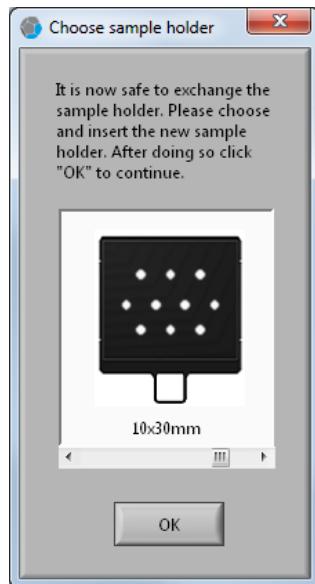

Figure 5.3.: Exchange Holder dialog
A message window pops up (see Figure 5.3) when the system is ready for the sample holder exchange. During the holder loading this message has to be active. Do not confirm it prior to finishing the loading procedure. Otherwise you have to re-click  **Exchange Holder** before continuing.
A dialog is displayed (see Figure 5.3) when system is ready for the exchange. During the holder unloading procedure this message has to be active. Do not confirm it prior to finishing the unloading procedure.
Carefully pull on the holder handle until the sample holder is completely detached from the system. Next either insert another sample holder or directly confirm the dialog Figure 5.3 by clicking on  **OK**.
- Choose your sample holder via the slider in dialog box Figure 5.3.
- Wait for the Exchange Holder dialog to pop up, see Figure 5.3.